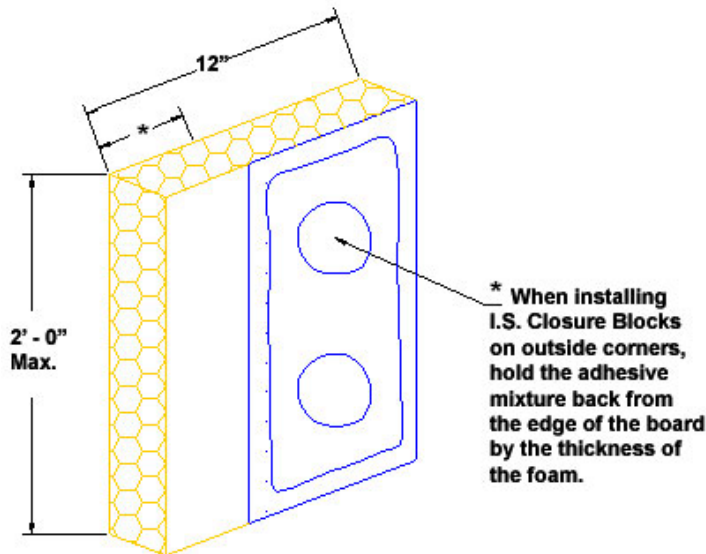

Figure 28
- b. Apply the adhesive mixture to the back side of the I.S. Closure Block using a ribbon and dab pattern. When installing I.S. Closure Blocks on outside corners, hold the adhesive mixture back from the edge of the board by the thickness of the foam and position on the wall as shown in Figure 28.